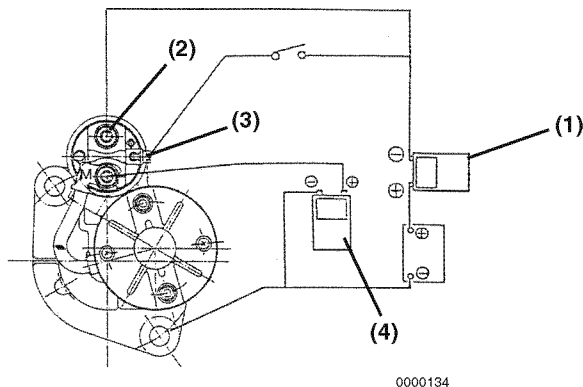

Figure 10-37
2. Connect an ammeter (**Figure 10-37, (1)**) in series with the battery positive (+) terminal (**Figure 10-37, (2)**) and the "S" terminal (**Figure 10-37, (3)**) of the starter motor solenoid.
3. Connect a voltmeter (**Figure 10-37, (4)**) between the solenoid "M" terminal and the frame of the starter motor.